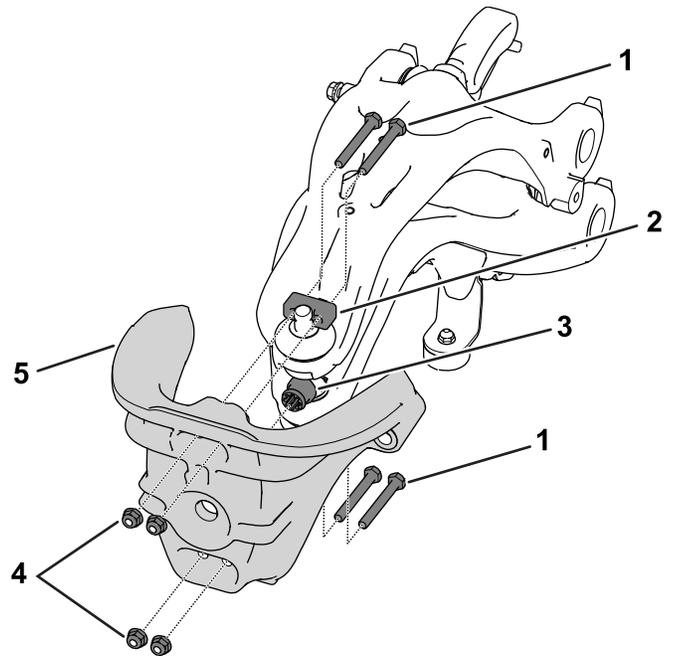

Figure 3
- Remove the hex-head bolts (5/16 x 2-1/2), nuts (5/16 inch), and clamps that secure the steering head to the suspension (Figure 3).
- Remove the plastic splined grommet from the steering head (Figure 3).
- Use the hardware that you removed in step 3 to install the steering head to the suspension (Figure 3).